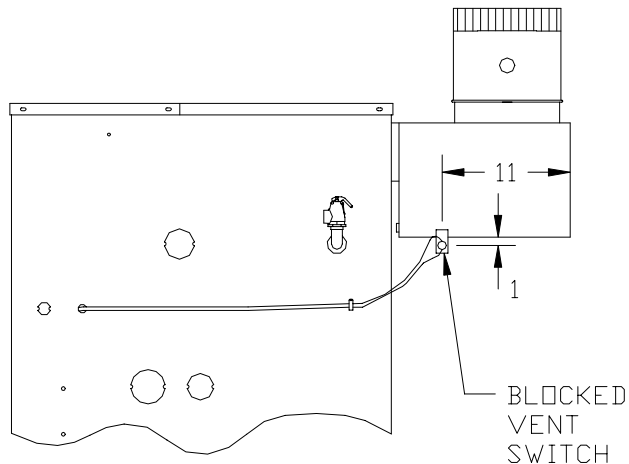

Figure 17: Blocked Vent Switch Installation, IN10 through IN12
2. Models IN10 -IN12. Install on right side of draft hood. See Figure 17. Reset switch must face away from draft hood relief opening.